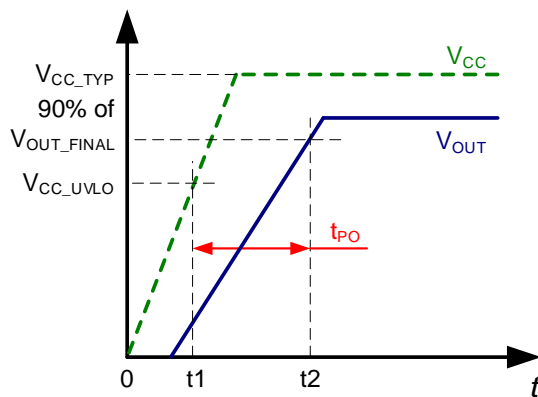

Figure 5: Power On Time (t_{PO})
2. t_2 : V_{OUT} settles to 90% of its final value under an applied primary current (see Figure 5).